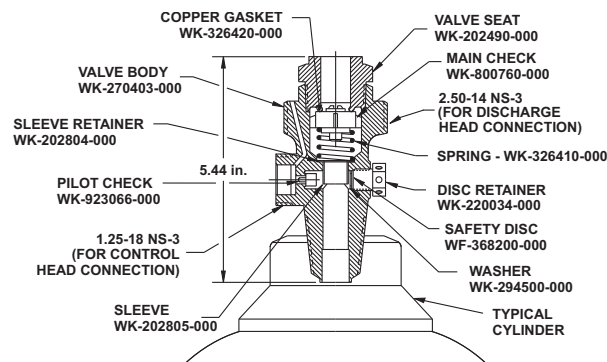

Figure 7-3. 5/8-inch I-Valve for Nitrogen Driver
**Note:** Refer to Figure 7-3 and Table 7-2.
**Note:** The main check assembly is installed with the rubber seat facing up. The copper sealing gasket **MUST** be replaced when the valve seat is removed. Refer to Figure 7-3.